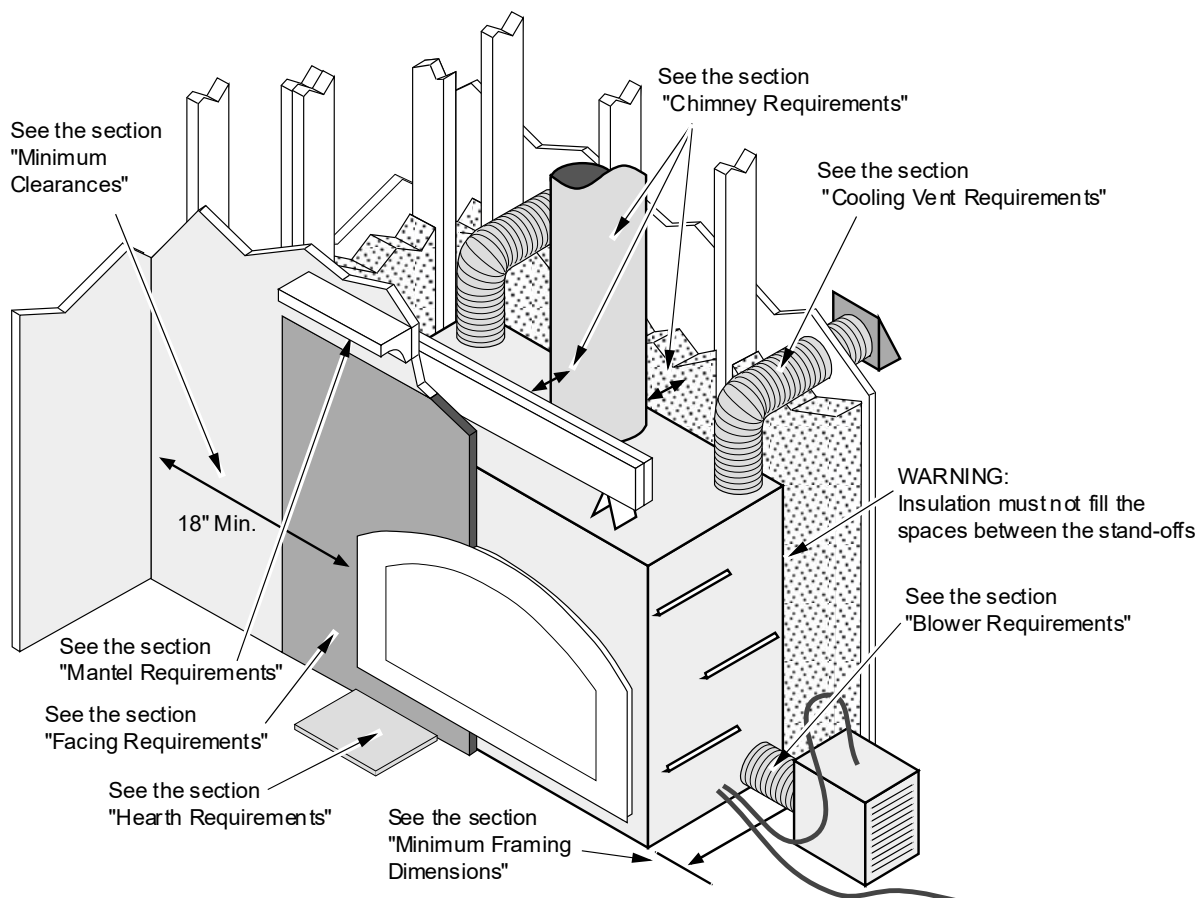

Figure 2
- When installed, walls in front of the fireplace must be a minimum 18" to the side of the faceplate (15-1/2" from the side of the fireplace). See Figure 2 on page 7.